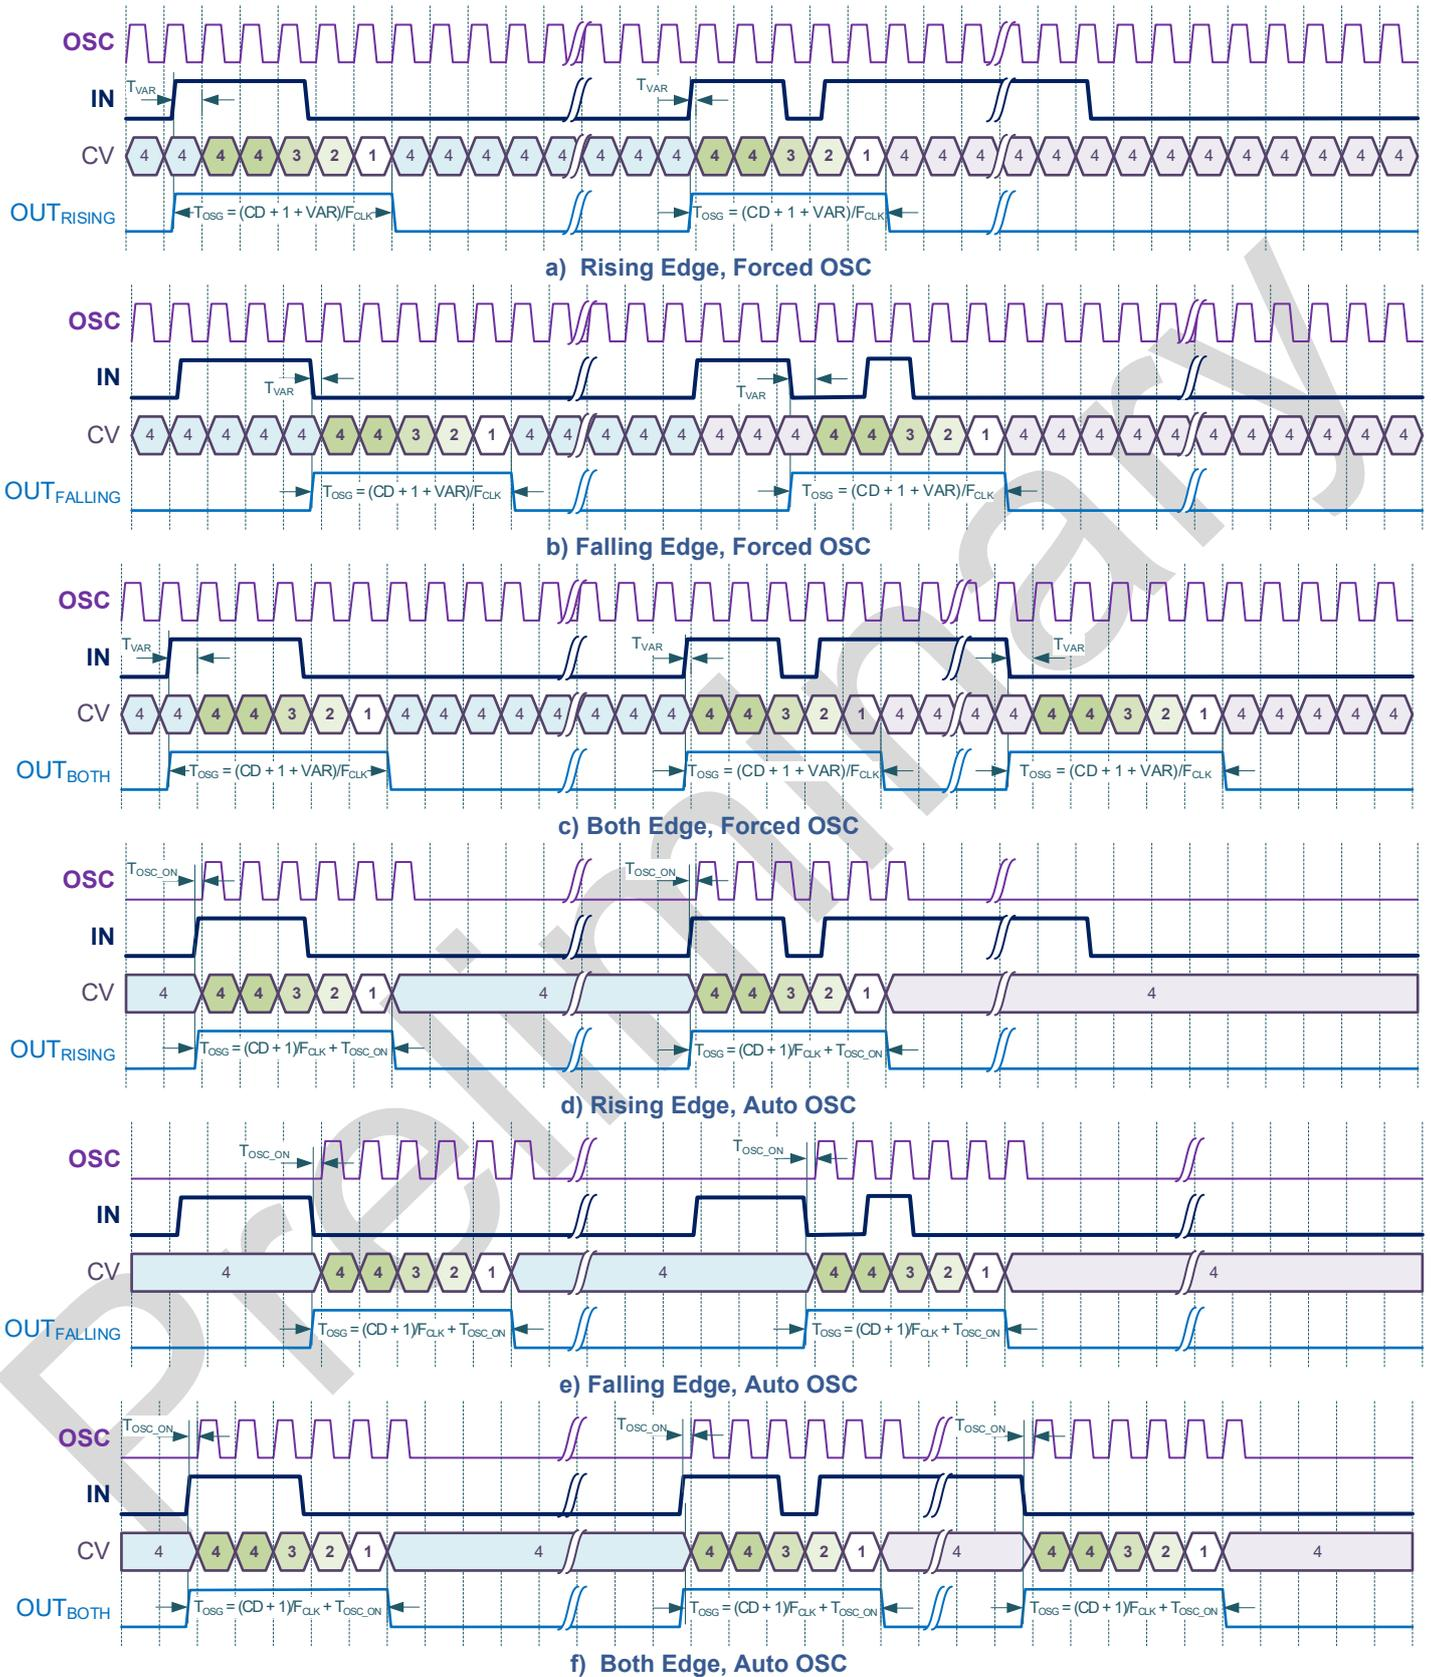

Figure 8.7. One-Shot Generator Mode (Control Data: 4)
In One-Shot mode this macrocell generates a high-level pulse with a set width, when detecting the edge event, which is selectable by the registers, on its IN input. The pulse width is determined by the Control Data, input clock signal and selected prescaler value. Any incoming edges are ignored during pulse width generation. The timing diagrams of this mode is shown in the Figure 8.7.
- One Shot (Figure 8.7)